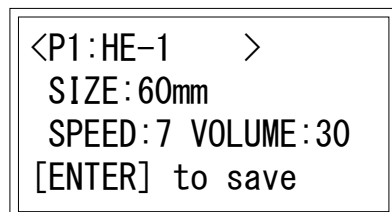

Figure 3-J: Program Edit Screen
- When the **MENU** key is pressed once again, the program edit screen appears (Figure 3-J).